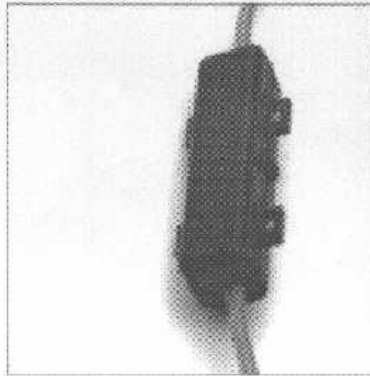

Figure 2-13. A Completed Splice
- 11 Close the splice enclosure, pressing it firmly until the teeth lock together (Figure 2-13).